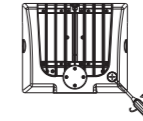

figure 6.1
Step 1: Open the metal plug and plastic plug counterclockwise with a screwdriver, (figure 6.1)